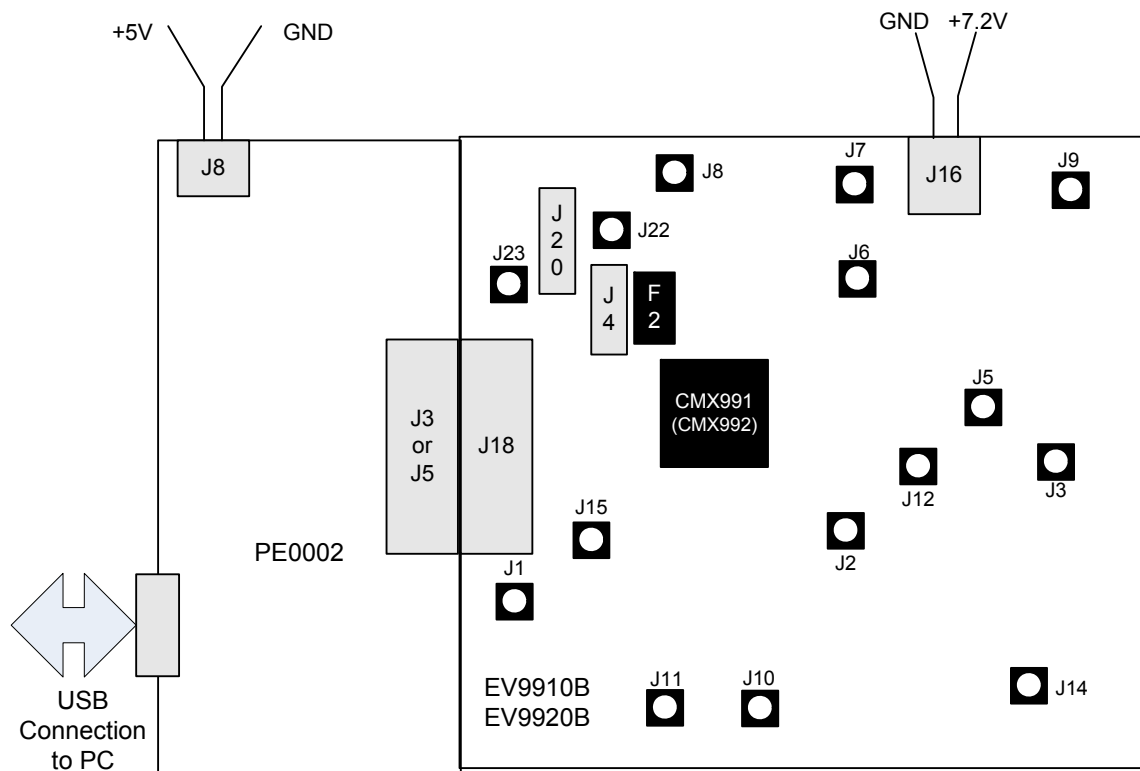

Figure 3 – EV9910B/EV9920B Connection to PC Using PE0002
2. Connect a Controller to C-BUS interface J17 or J18 (PE0002 can be used – see Figure 3).